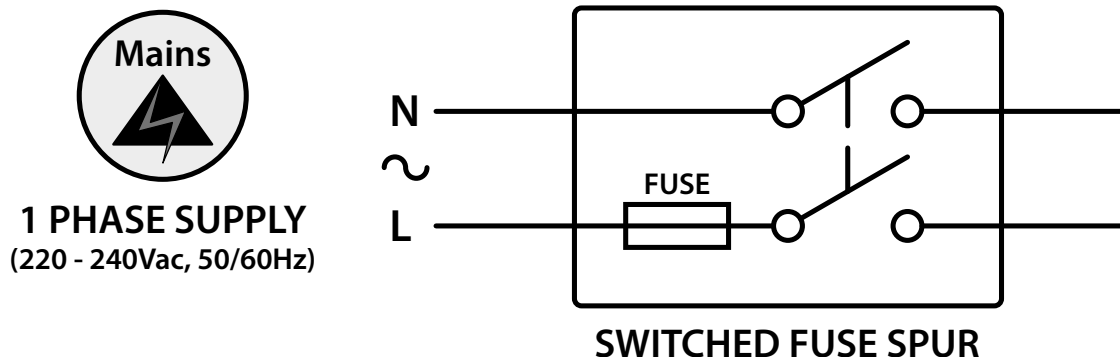

Fig. 12
- Connecting the system to the mains through an all-pole circuit breaker (refer to **Fig.12**) which shall have contact separation of at least 3mm in each pole and shall disconnect all poles simultaneously.